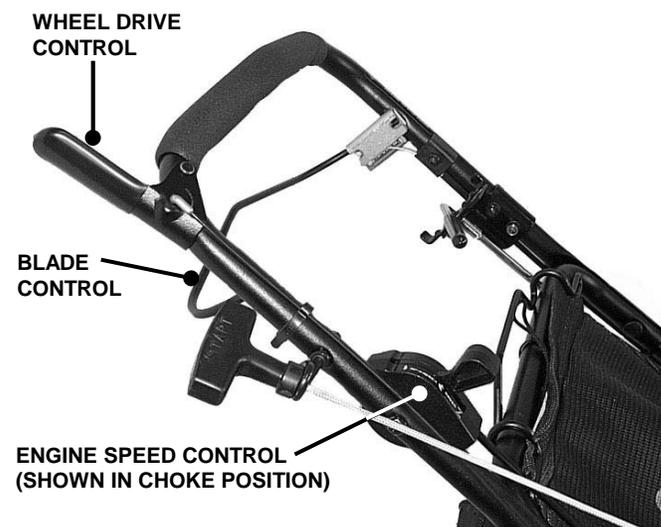

FIGURE 2.3
**1.** Turn fuel valve to on. See Figure 2.4. Move engine speed control to the "choke" position. The choke should not be required to restart a hot engine. See Figure 2.3.
4. After engine starts, move engine speed control away from the choke position to the "Fast" (Rabbit) position. See Figure 2.3.